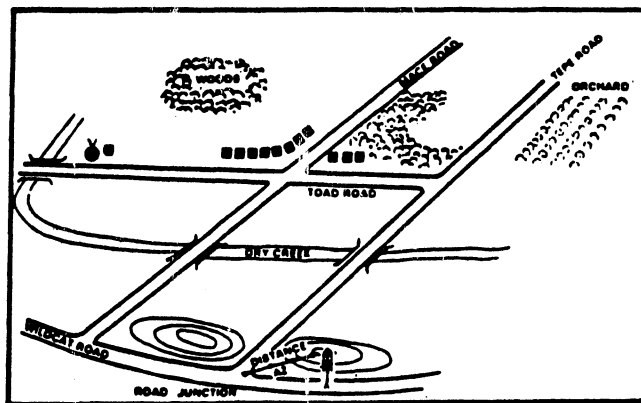

Fig 6-4. Location of firing position.
2. Show the location of your firing position by drawing an arrow from a nearby recognizable terrain feature and add distance and azimuth from the terrain feature to your firing position (fig 6-4).